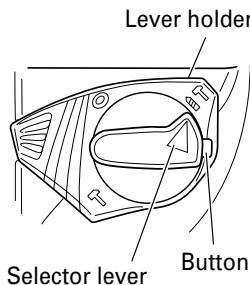

Fig. 6
- (1) Switching to "rotation + hammering"
- (b) Align ▲ of the selector lever and ⚡ of the lever holder as illustrated in Fig. 6.